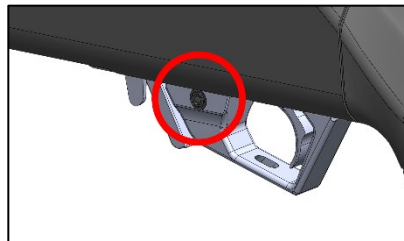

Figure 9 – SAFETY ON/FULL SAFE
- Place the safety button into the “FULL SAFE” position with the red band hidden – Figure 9.